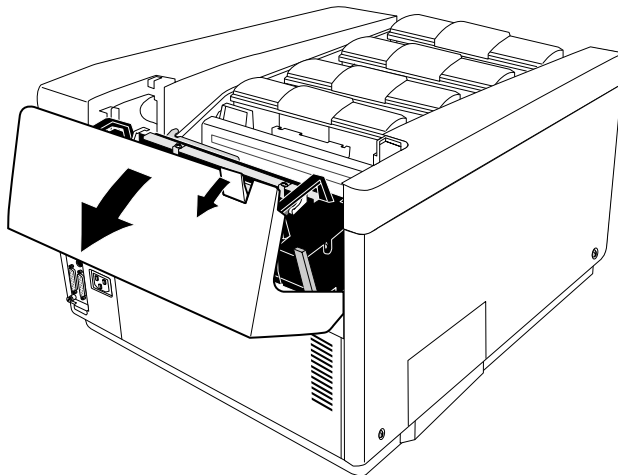

Fig. 2.13 *Open the Paper Exit Unit (rear view)*
1. With the top cover still off, pull up on the paper exit unit latch and then tilt the unit back and down to open it (fig. 2.13).